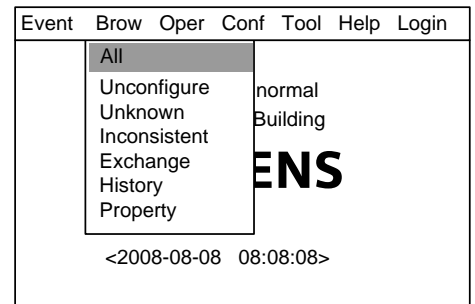
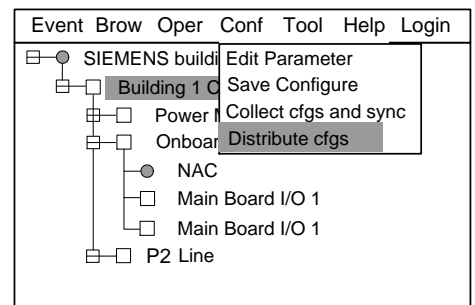

Fig.35-2
Fig.35-3
2. Press “→” to select “Brow” submenu (Fig. 35-2). Select "All" and then press “OK”. Now the tree diagram will be displayed in the window (Fig.35-3).
3. Select the host machine in the tree diagram, then press “Menu” to browse the main menu, and press “→” to select “Distribute cfgs” (Fig.35-3) submenu to start the configuration distribution.